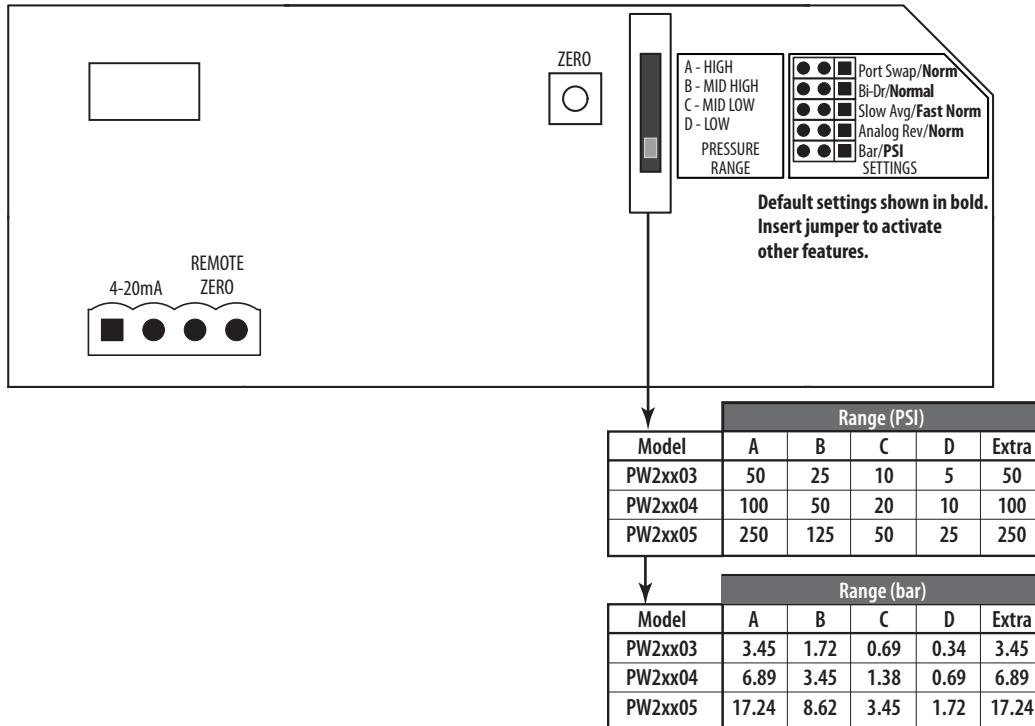

Figure 1: PW2 Configuration with 5-Position Switch
2. Look at the range selection switch. The switch body will extend toward the center of the PCB past the silkscreen square around the "PRESSURE RANGE" text (see Figure 1).